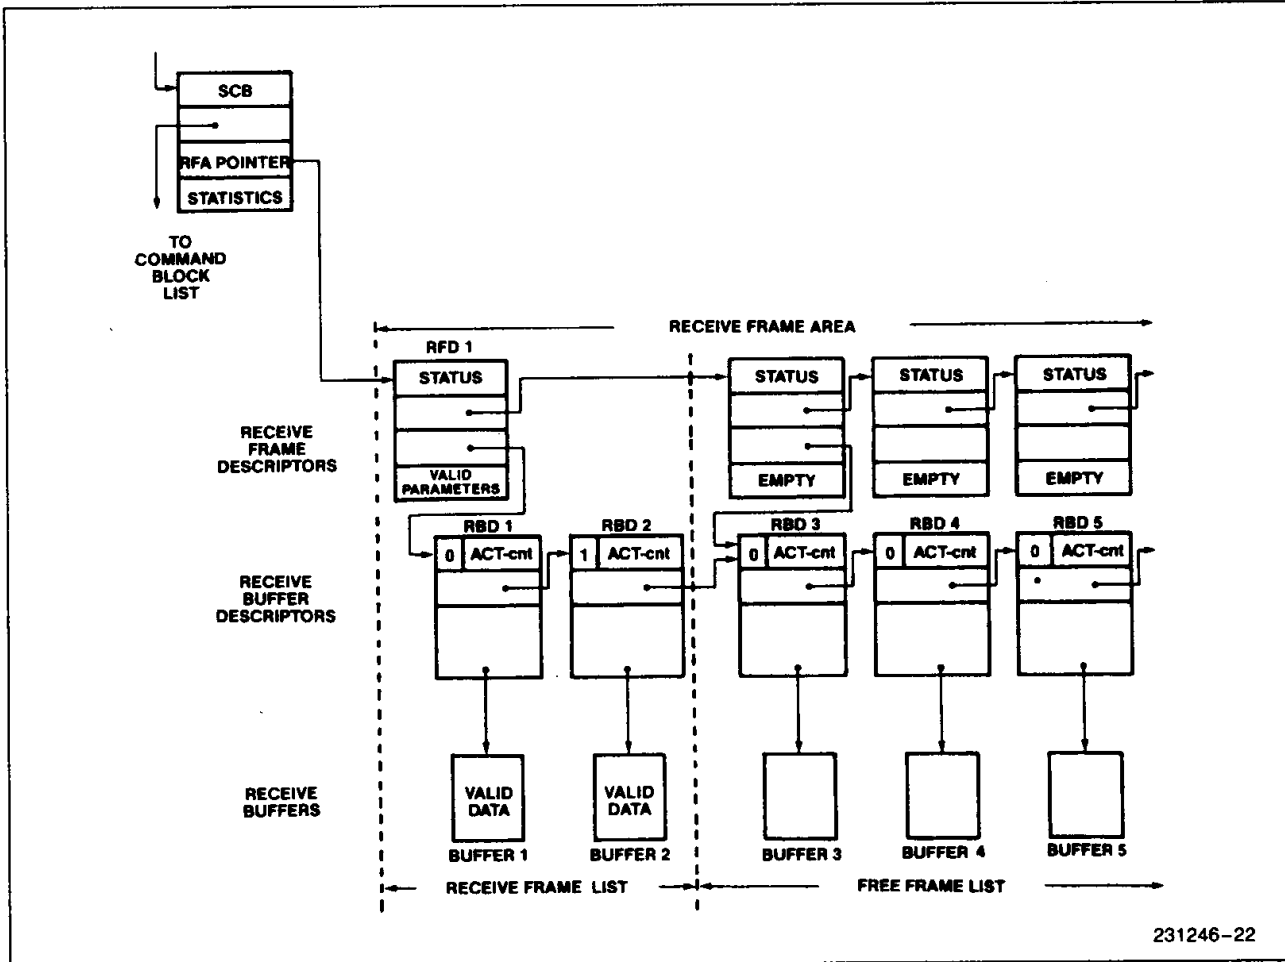

Figure 21. The Receive Frame Area
The Receive Frame Area, RFA, is prepared by the host CPU, data is placed into the RFA as frames are received. RFA consists of a list of Receive Frame Descriptors (FD), each of which is associated with a frame. RFA-OFFSET field of SCB points to the first FD of the chain; the last FD is identified by the End-of-Listing flag (EL). See Figure 21.